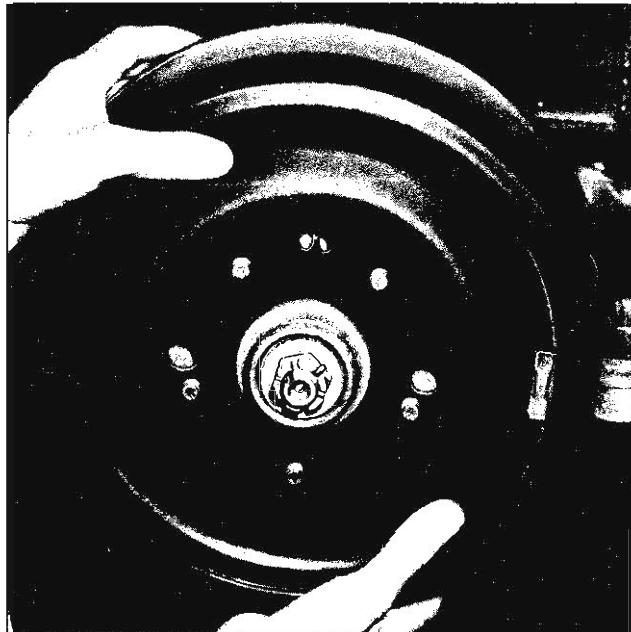

Fig. 28—Aligning Drum Tang with Wheel Hub
2. Install brake drum, aligning tang with wheel hub (fig. 28).